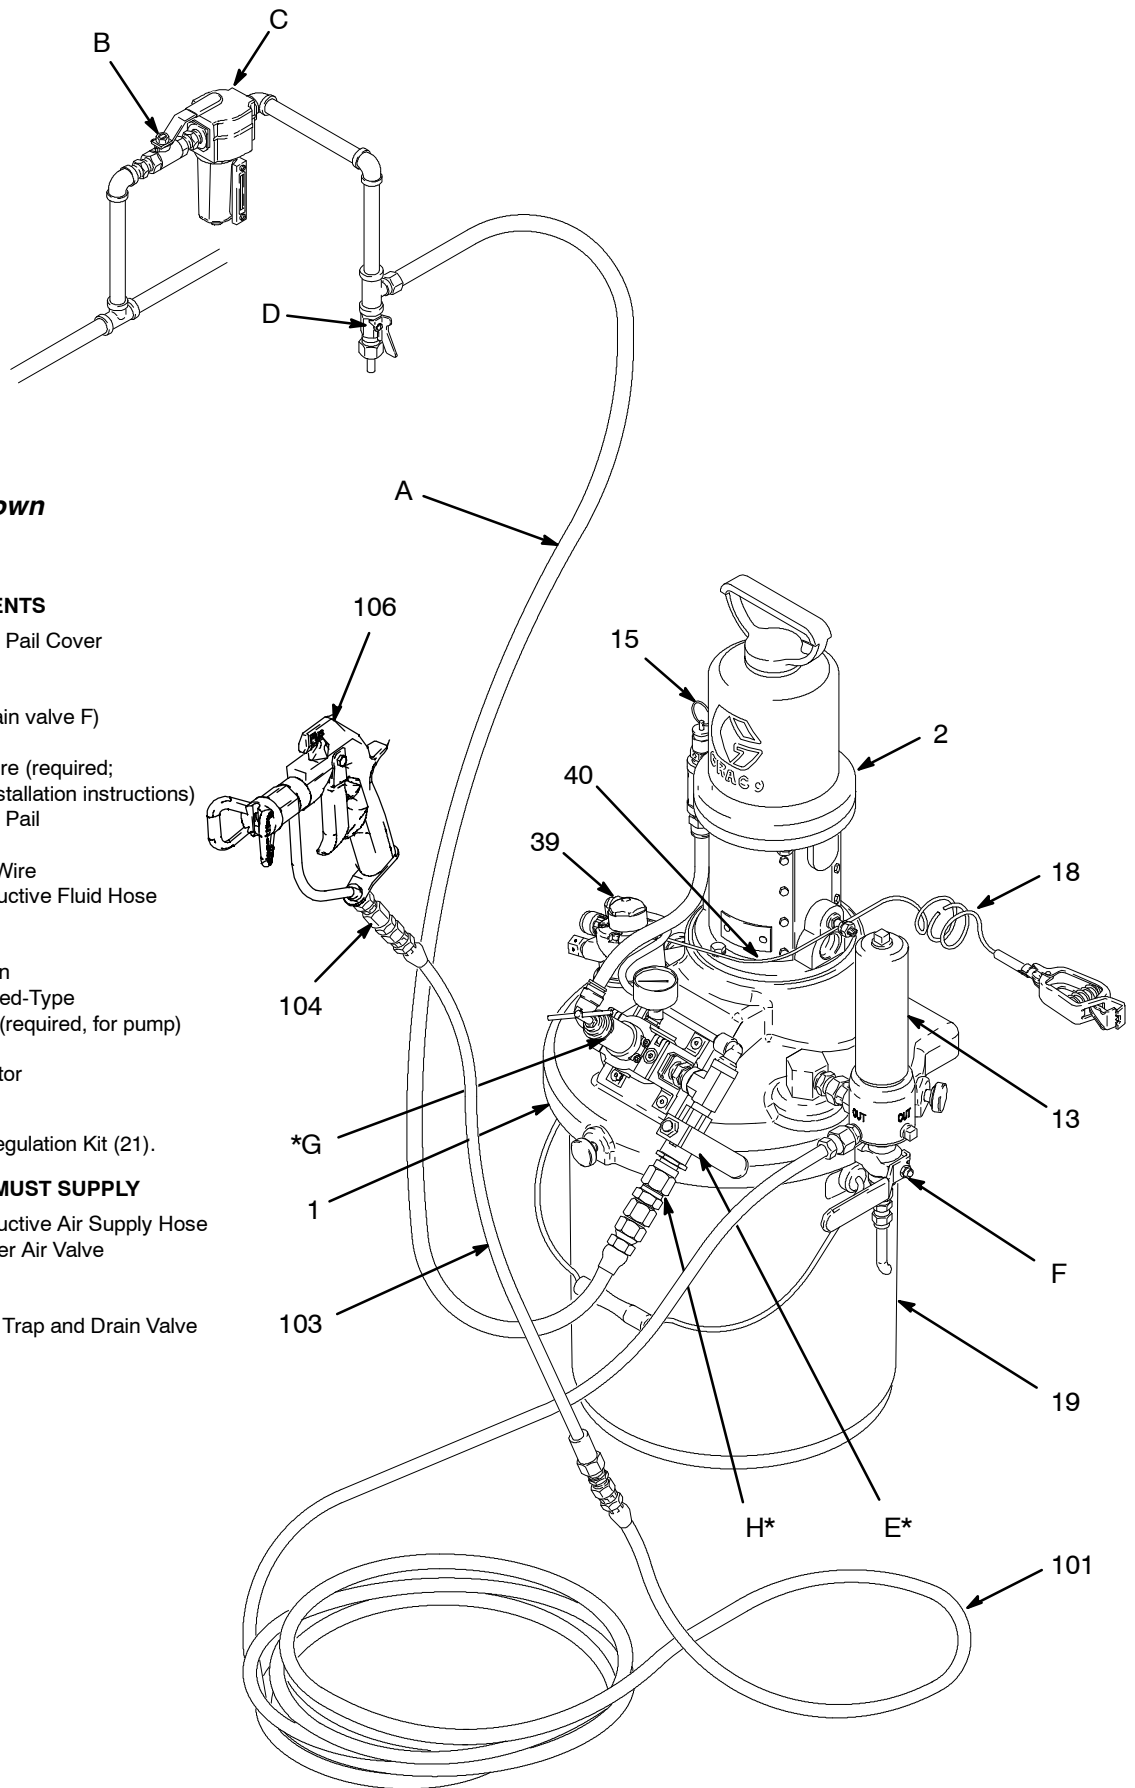

Fig. 2
Fig. 2 is only a guide for selecting and installing system components and accessories. Contact your Graco distributor for assistance in designing a system to suit your particular needs.
Refer to Fig. 2 on page 9. Bring a compressed air supply line from the air compressor to the pump location. Be sure all air hoses are properly sized and pressure-rated for your system. Use only electrically conductive hoses. The air hose (A) should have a 3/8 npsm(m) thread.
Refer to Fig. 2.